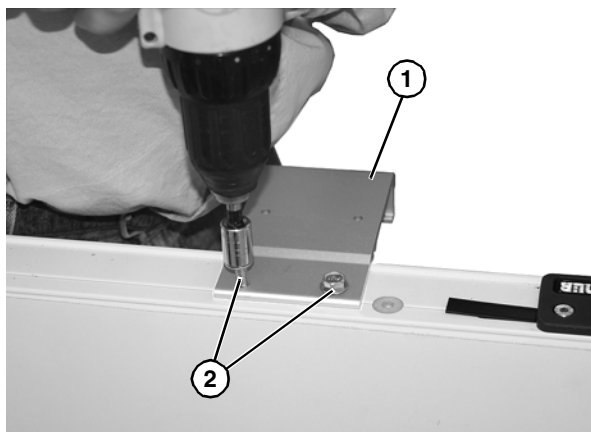

Figure 20
- Position and hold bracket (**Figure 20, item 1**) to side rail. With a standard M6-1.0 or 1/4-20 screw, install screws (**Figure 20, item 2**) with cordless drill or equivalent. Do not fully tighten with drill.